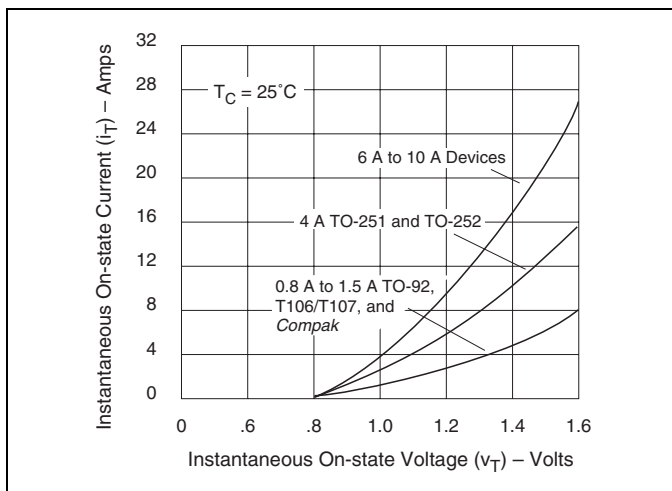

Figure E5.11 Instantaneous On-state Current versus On-state Voltage (Typical)
- (3) See Figure E5.11 for instantaneous on-state current (IT) versus on-state voltage (VT) - (typical).